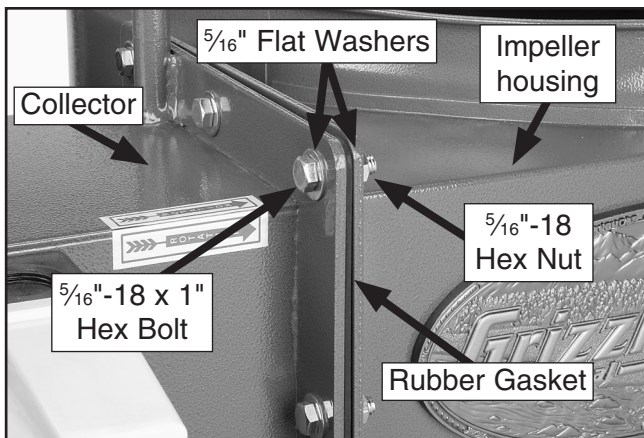

Figure 16. Collector mounted to impeller housing.
- Use eight $\frac{5}{16}$ "-18 x 1" hex bolts, (16) $\frac{5}{16}$ " flat washers, and eight $\frac{5}{16}$ "-18 hex nuts to attach each collector to the impeller housing with a rubber gasket between the components, as shown in **Figure 16**.